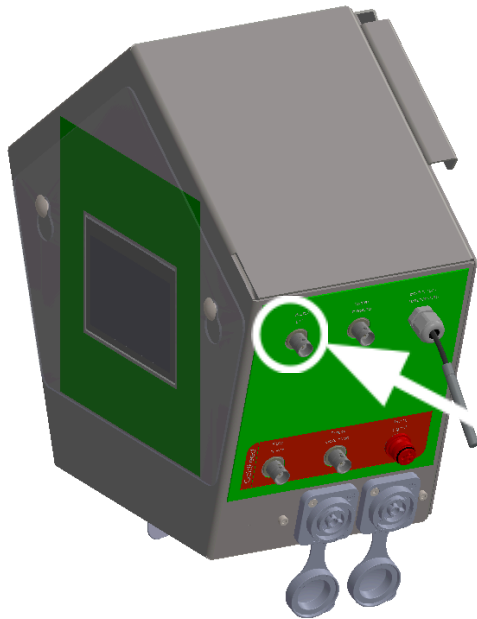

Figure 16
3. Connect the pH probe cable to the right side of the control box at '**Water pH**' (see Figure 16).